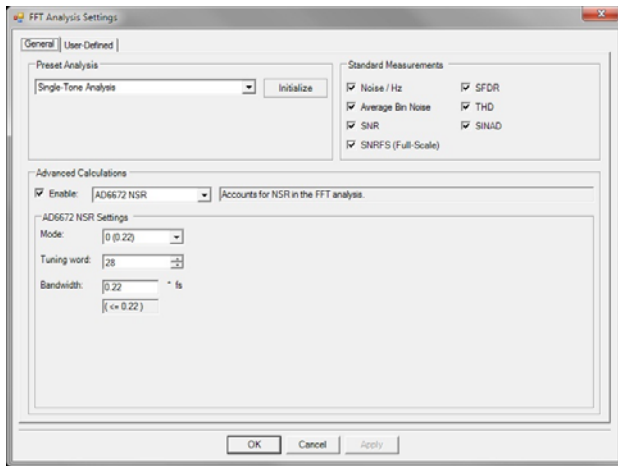

Figure 16. VisualAnalog, FFT Analysis Settings for AD6672
- Configure the settings in the FFT analysis to match the settings selected for the NSR in the SPI controller (see Figure 16).